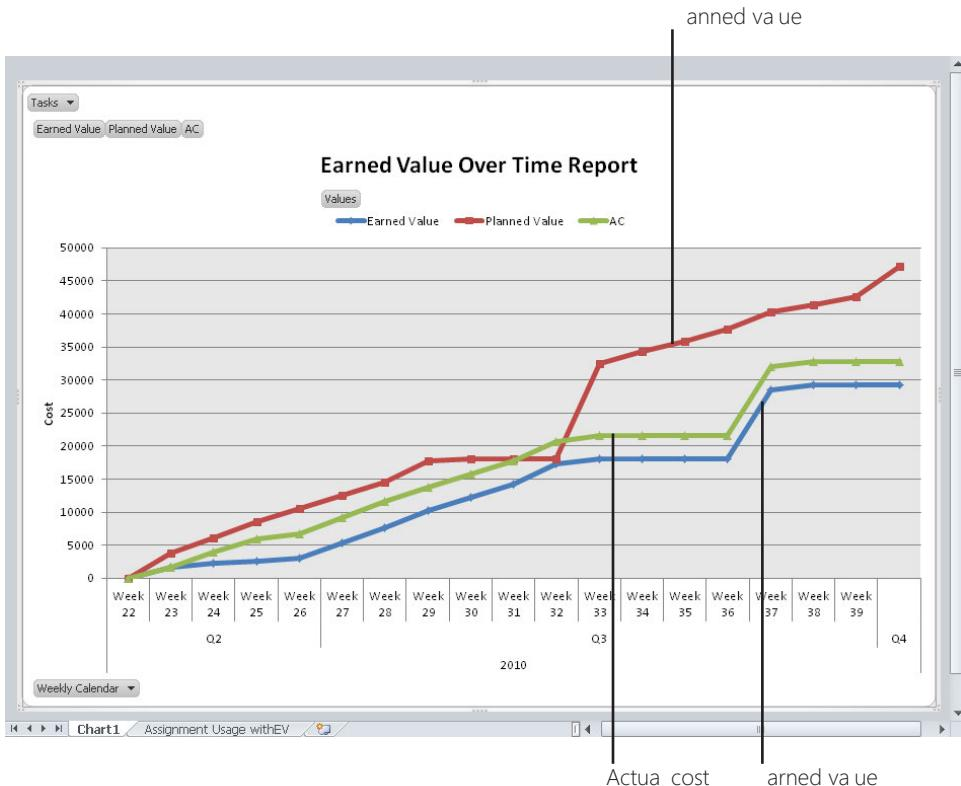

FIGURE 9-10 An earned value graph visually depicts the relationship among earned value, planned value, and actual cost, so you can easily identify trends.
An earned value graph is the best way to view earned value because you don't even have to see any numbers to know whether your project is on schedule and within budget. You'll typically see BCWS, ACWP, and BCWP compared, as shown in Figure 9-10. By plotting each measure over time, you quickly see how your project is doing compared to your planned schedule and budget. The *y*-axis in the earned value graph represents cost, whereas the *x*-axis shows time.
- The BCWS line (planned value) represents the amount of money you planned to spend over the course of the project, so it's no surprise that it continues to rise throughout the project's duration. As the BCWS line in Figure 9-10 illustrates, the budgeted cost increases until it reaches its planned budget (\$47,240) at the end of the project.
To see an example of an earned value visual report, see Figure 9-10, on page 225